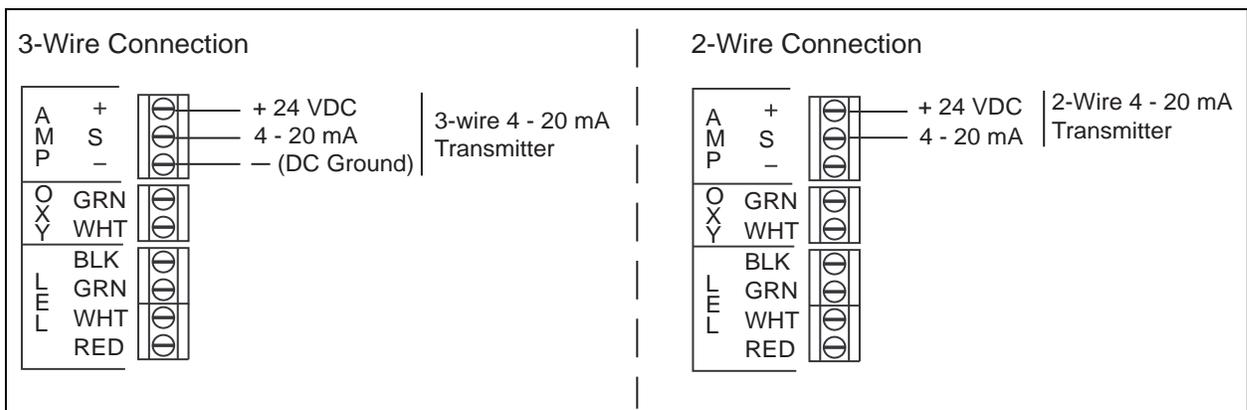

Figure 11: Generic 4 - 20 mA Transmitter Wiring
- Connect the wires from the transmitter to the AMP terminal strip. Figure 11 below illustrates typical transmitter wiring connections. See the transmitter instruction manual for controller terminal connections. If shielded cable is used, connect the cable shield’s drain wire at the Beacon 110 to the ground stud on the main PCB.